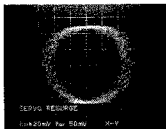

Figure 10
- Set the oscilloscope to X-Y operation, and while observing the lissajous waveform adjust P103 to the point where the phase difference is 90° as shown in Figure 10 above.